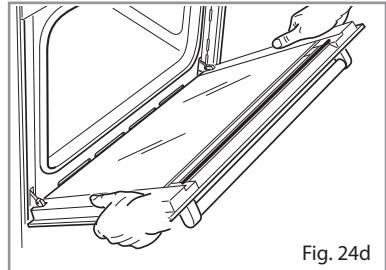

Fig. 24d
- Hold the door as shown in Fig. 24d.